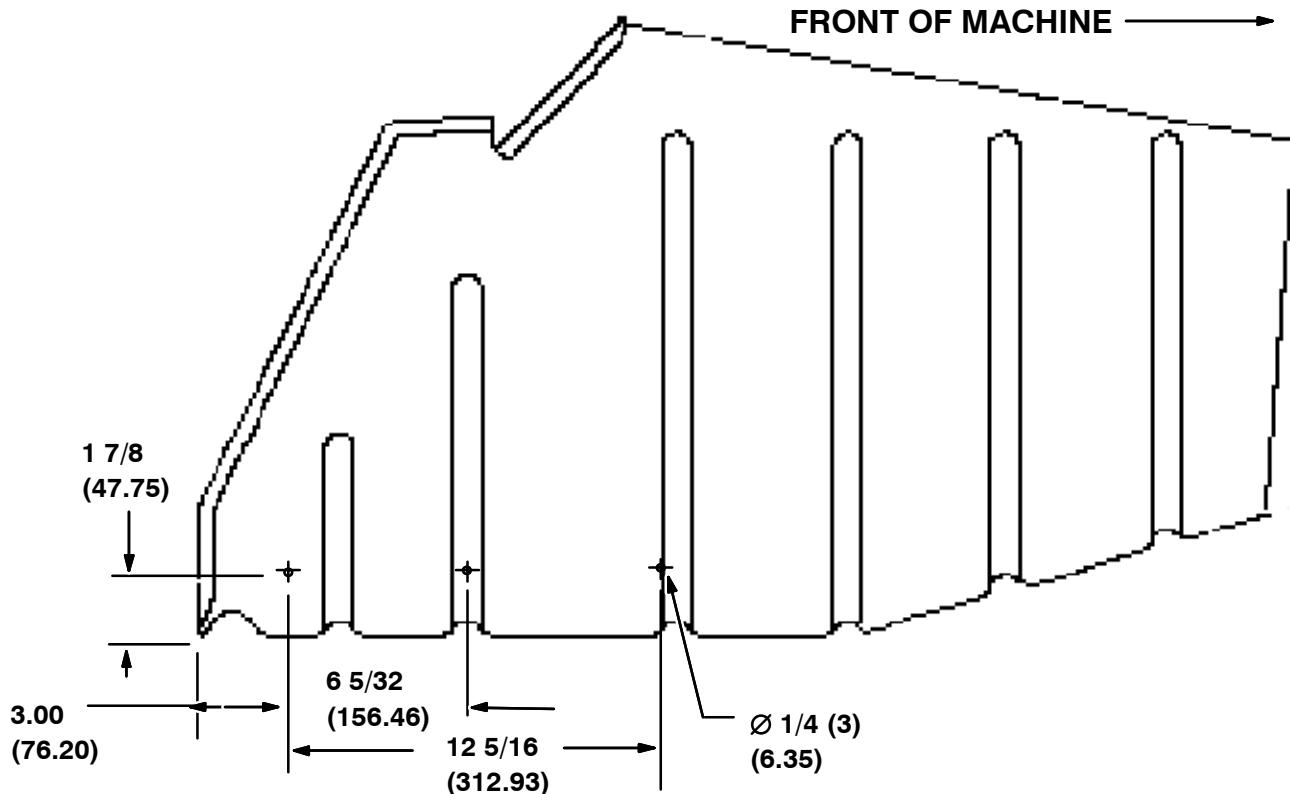
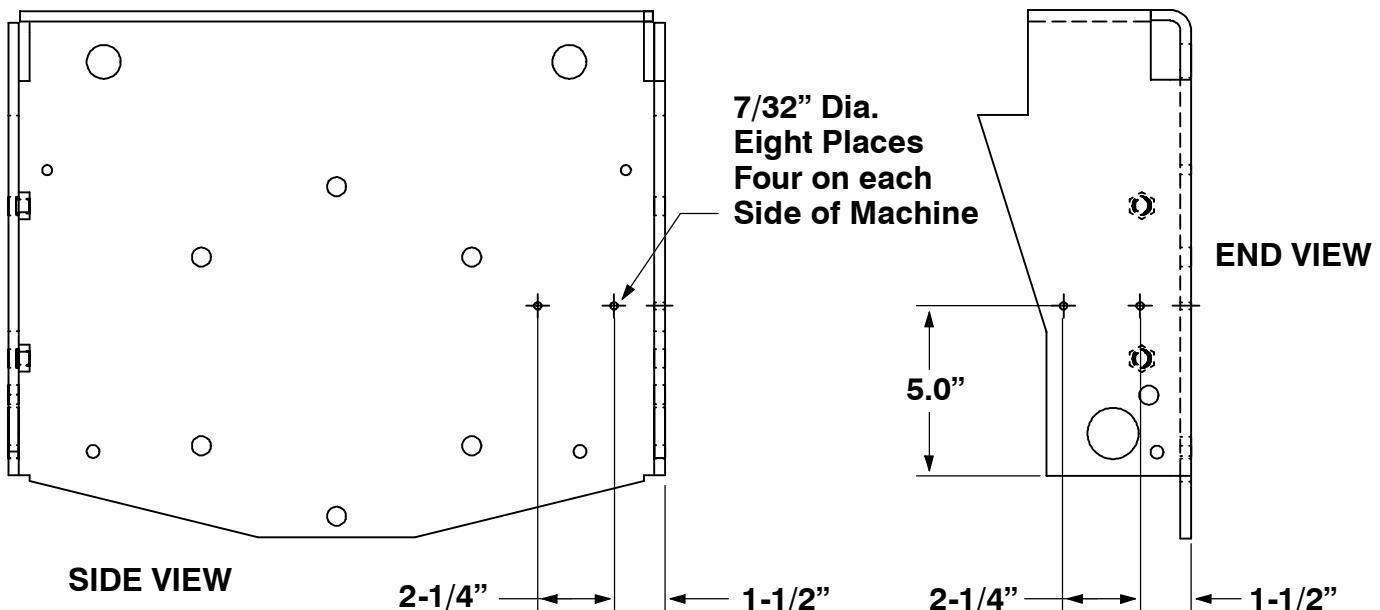

FIG. 1 – HOLE LOCATIONS IN RIGHT SIDE OF PLASTIC HOPPER
FIG. 3 – Hole Locations in Wheel Pocket Frame
(Refer to FIG. 1 thru 6)
(Refer to FIG. 1, 2 and 3)
2. **HOPPER:** Drill three 1/4 inch diameter holes in right side of hopper. Refer to FIG. 1 and 2 for hole locations. Drill holes in hopper on side brush side only.
3. Install right skirt (13) and right retainer plate (14) on right side of hopper with three hexforming screws (26), three flat washers (12), and three lock nuts (27).
4. Drill eight 7/32 inch diameter holes (four holes for each wheel pocket) in wheel pocket frame. Refer to FIG. 3 for hole locations.